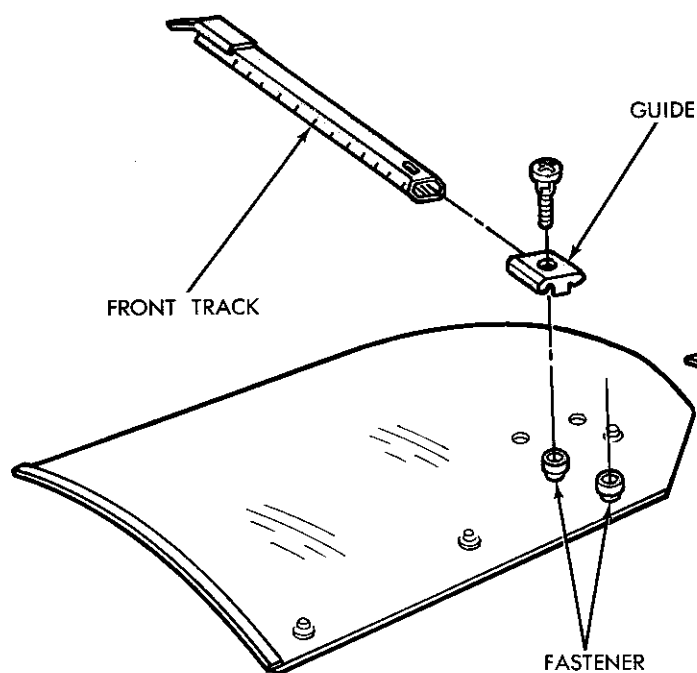

Fig. 36—Glass Assembly
(5) Remove front track from glass guide and guide from glass (Fig. 36).
(6) Remove fasteners and up-stop from glass (Fig. 36).
(1) Place glass on table with outside of glass facing upward.
(2) Install fasteners and up-stop in glass (Fig. 36).